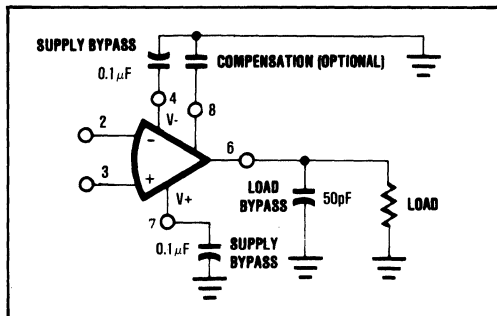

FIGURE 1. Compensated Amplifier with Supply Load Bypassing.
1. Capacitance values shown are compensation from pin 8 to common. Not required for stability. See Figure 1.
The frequency response of the OPA11HT can be adjusted by use of an external compensation capacitor from pin 8 to common as shown in Figure 1. The open-loop frequency response curves illustrate the effect of various values of capacitance. The OPA11HT is stable at any gain level without the use of compensation, provided that stray wiring capacitance and/or load capacitance are not excessive, and that moderate values of feedback resistance are used ($R_{FB} \leq 10k\Omega$). A load capacitance of $\approx 50pF$ is desirable in all feedback configurations.
Because the OPA11HT is an extremely-fast amplifier with high gain, stray wiring capacitance and inductance in power supply leads can cause circuit oscillation. This can be prevented by proper circuit layout (all leads or patterns as short as possible) and by properly bypassing the power supply lines to common at points close to the amplifier. In addition, it is recommended that the load be bypassed by a $50pF$ capacitor, see Figure 1.